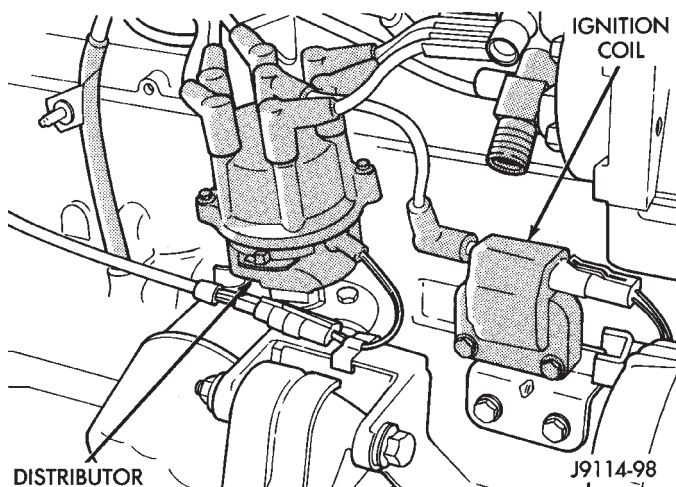

Fig. 35 Ignition Coil—4.0L Engine
(4) Inspect ignition coil connections. Verify that coil secondary cable is firmly connected to coil (Fig. 35).